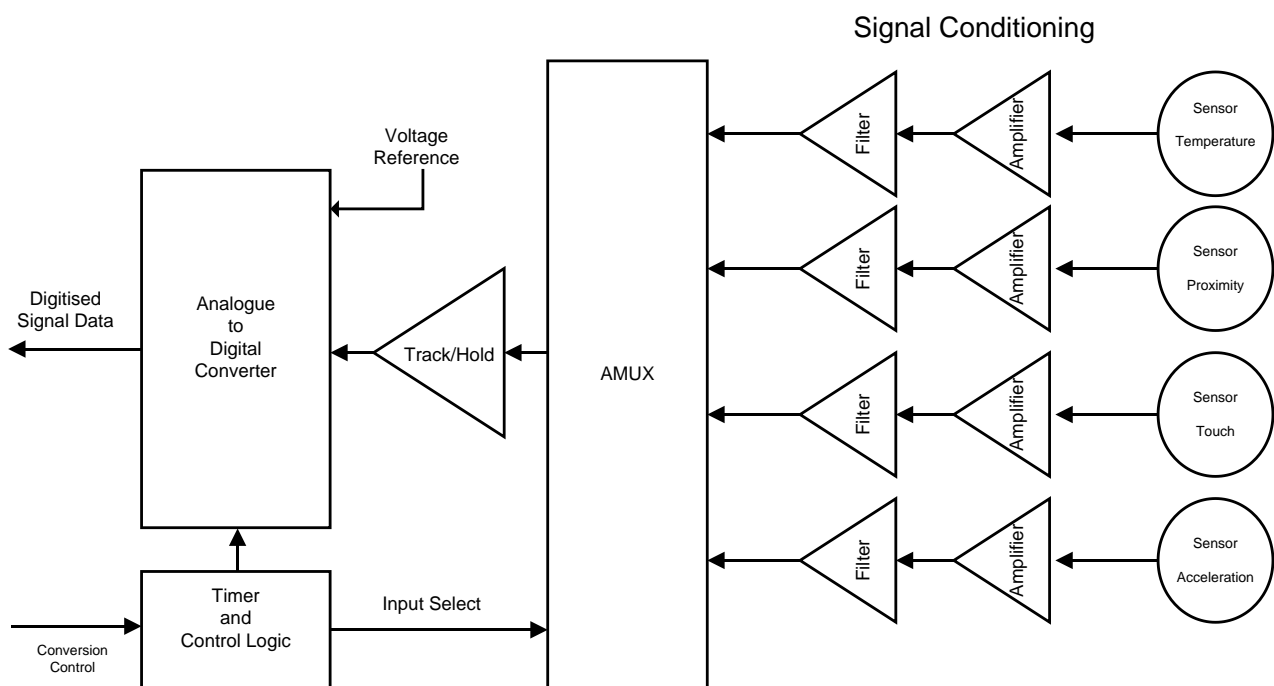

Figure 33. A Basic Data Acquisition System
In the broader context of computer based scientific and industrial instrumentation systems, signal acquisition systems gather data from sensors such as temperature, touch, proximity, pressure, flow, humidity, acoustic, optical and ultrasonic detectors. Also, the range of sensors interfaced to computer systems is rapidly expanding as gesture sensing, virtual reality and wearable computing applications are developed. This type of system is shown in Figure 33. At present there is considerable research in this area.
Before discussing specialist interface functions it is worth considering the architecture and components of a generic DATA ACQUISITION SYSTEM (DAS). As shown in Figure 33 the DAS processes analogue signals from their raw state, as generated by the sensor inputs, into a stream of digital values which are available for processing by a computer. The digital bit-stream represents the current value of some physical quantity, for example temperature, touch, proximity, pressure, displacement, light etc.
As will be discussed later, the basic DAS shown in Figure 33, has many features in common with PC sound and video interfaces.
A fundamental operating condition for the ADC is that the input voltage should be held constant during the conversion process. If this requirement is not met, significant conversion errors appear in the digitised signal values. The Track and Hold circuit which immediately precedes the ADC in Figure 33 is used for this purpose. In **tracking** mode the input voltage to the ADC simply follows, or tracks, the analogue input value but when the circuit is switched into **hold** mode the ADC input is held constant while the ADC digitises the input signal. The hold signal is applied for the time it takes for the ADC to complete the digitisation process and is dependent of the type of ADC used. For example, Successive Approximation ADCs require a number of clock cycles to fully acquire a signal sample, a sample-hold circuit is therefore essential here. Alternatively, a Flash ADC acquires the signal in a single clock cycle and therefore does not require a sample-hold circuit. These ADC types are briefly described in Table 4.
The DAS shown in Figure 33 can be viewed as a generic DAS architecture and the elements described are common to the majority DAS implementations. Actual DAS implementations are often embedded into systems as sound, video or data logging interface cards and the interfaces very often combine signal acquisition with signal reconstruction. At this point, therefore, it is appropriate to introduce analogue signal reconstruction.
More complex, and hence more expensive, DAS systems provide many enhancements to the basic features described in Figure 33, for example:
* The simple DAS structure shown in Figure 33 can only sample a single channel at any sampling instant. It cannot, for example, sample two inputs simultaneously. If a measurement is required to provide the precise time interval between two signals then simultaneous sampling is required and additional ADCs, or Track/Hold circuits are necessary.